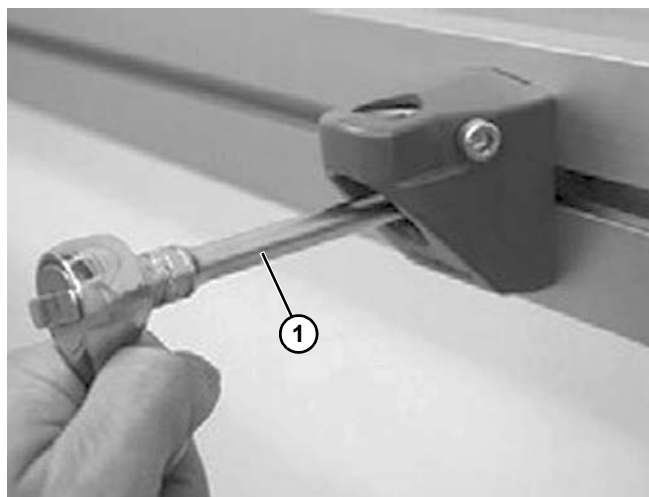

Figure 93
2. Attach the bracket onto conveyor beam and tighten with a socket wrench (**Figure 93, item 1**).